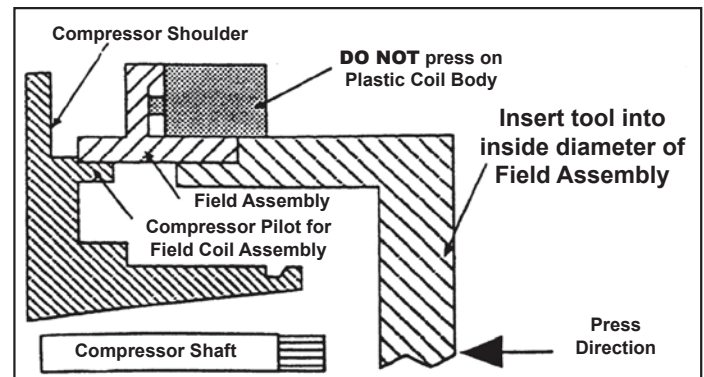

Figure 5. Ford FX-15 Field Installation
- Visually check to ensure the field is positioned squarely on the compressor pilot nose. Press the field assembly onto the pilot until the field shell bottoms on the compressor shoulder. See figure 5.